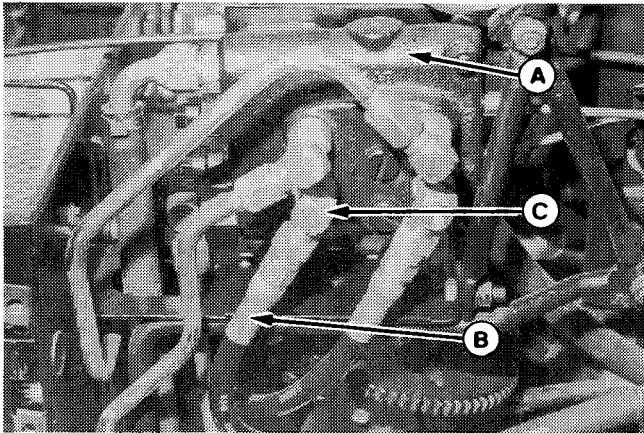
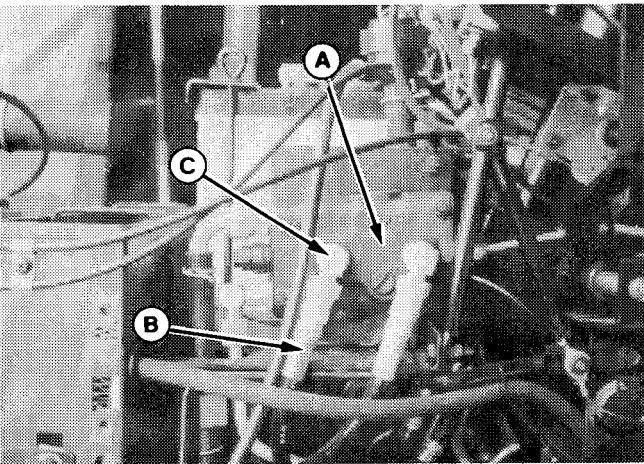

Figure 1A Mfg. No. 1691365
Figure 1B Mfg. No. 1691000
To install Mfg. No. 1691365 dozer blade, an auxiliary hydraulic kit, Mfg. No. 1691195, must be installed. A new valve (figure 1A) is included in the kit. Be sure to install restriction washer in the new valve.
A washer is provided which must be added to the hydraulic valve. The purpose of this washer is to reduce travel time when dozer is raised or lowered. This washer has an outside diameter of 1/2 inch, and has a hole in the middle slightly smaller than 1/16 inch. Install washer as follows. For Mfg. No. 1691365, refer to Figure 1A. For Mfg. No. 1691000, refer to Figure 1B.
1. Remove the upper left-hand panel from the tractor to expose the valve (A, figure 1A or 1B).
2. Disconnect the hose (B) from the elbow (C). Remove the elbow (C).
4. Reinstall the elbow (C) and then connect the hose (B). Tighten the nut on the elbow securely, after elbow is properly positioned.